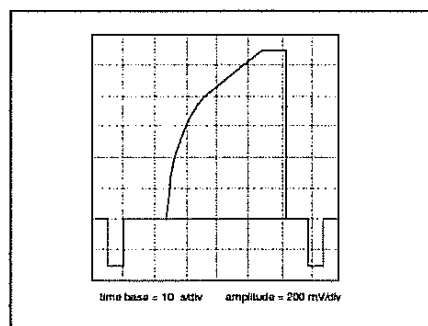

Figure 1, max. video level
- measure VIBS WK3:MP7 and adjust the top of the video to 1100 mV with WK5:P1 see fig. 1